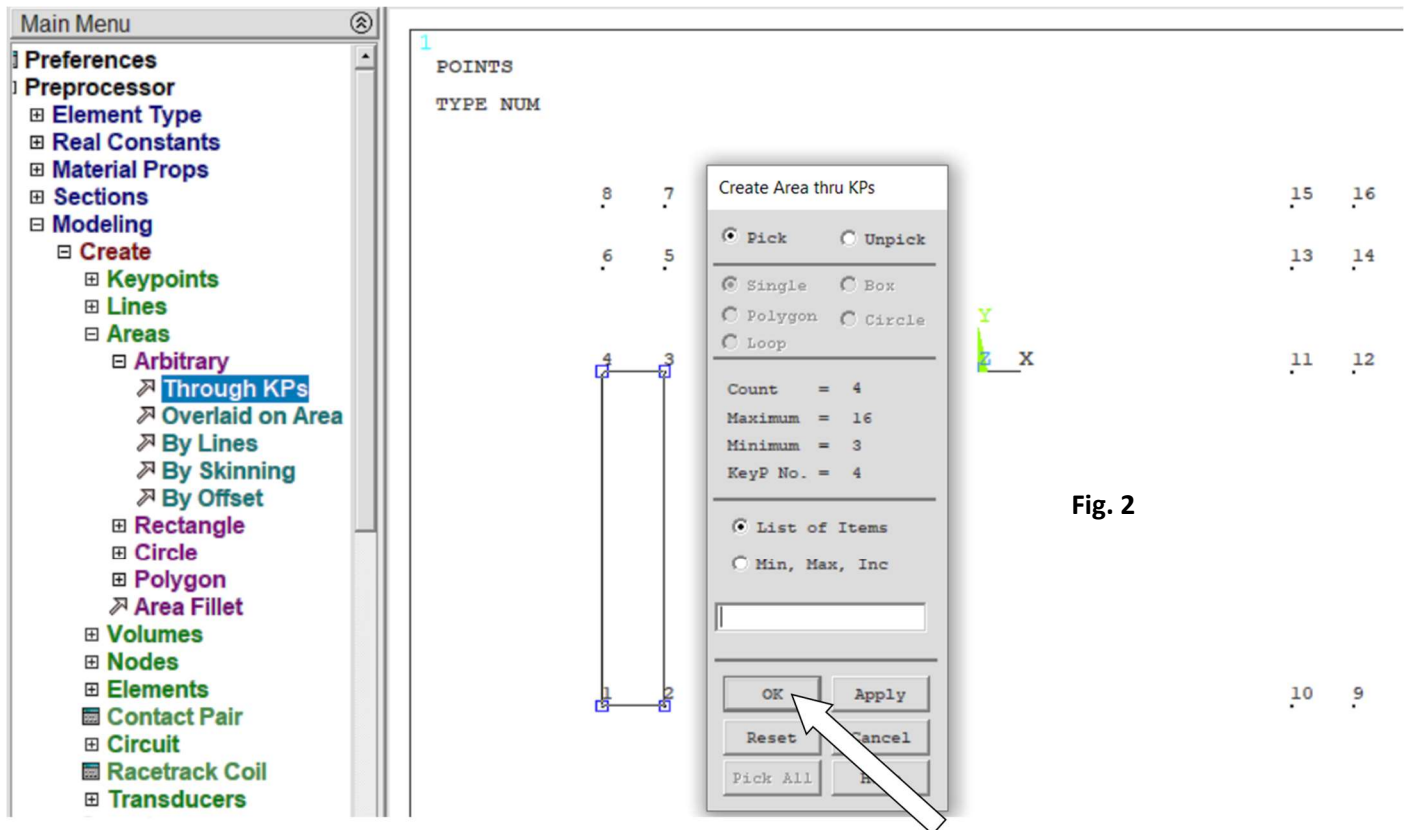

Fig. 2
c) create 7 areas through the keypoints (Fig. 2): 1->2->3->4->OK, (3->5->6->4, 5->7->8->6, 5->13->15->7, 13->14->16->15, 11->12->14->13, 10->9->12->11